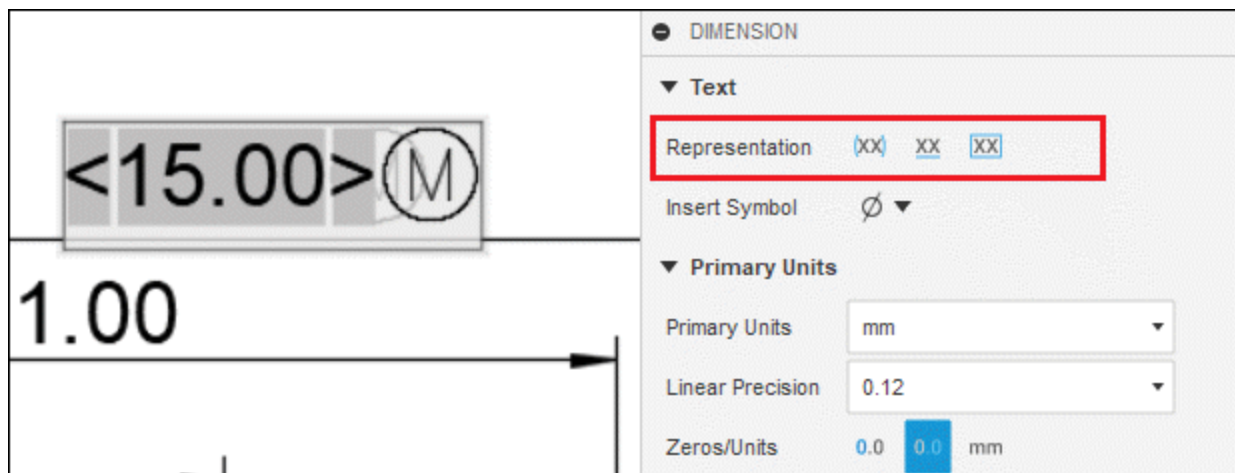

Figure-80. Representation options
- Select desired button of Representation section from Text node to make the dimension as reference dimension, not to scale, and theoretically exact; refer to Figure-80.